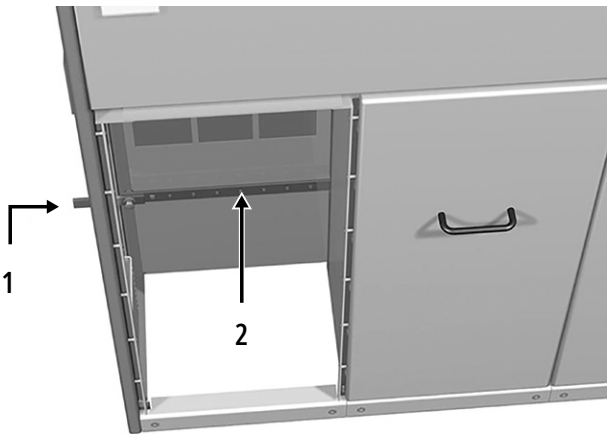

Figure 3-10: Earth bar position
The Xiria 630 unit can be connected either at the left or at the right side to the station earthing. An internal earth bar (2) is located at the rear of every cable connection compartment. This earth bar must connect the earth screens of the power cables and the system earth. See figure 3-10.